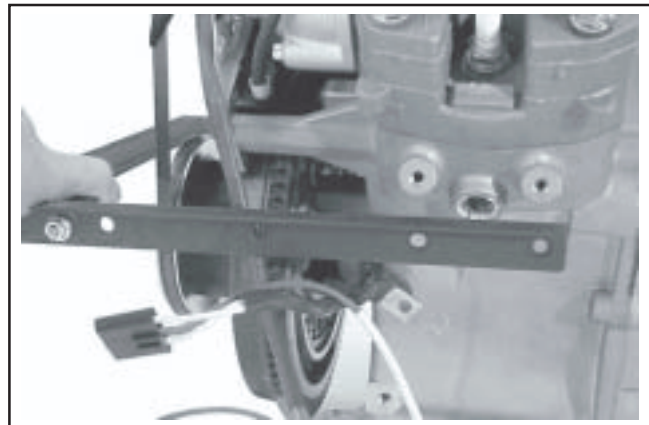

Figure 9-14. Removing LH and RH Mounting Brackets/Screws.
7. Remove the four screws securing the LH and RH side mounting brackets to the crankcase. Pull the complete mount assembly forward to remove. See Figure 9-14.